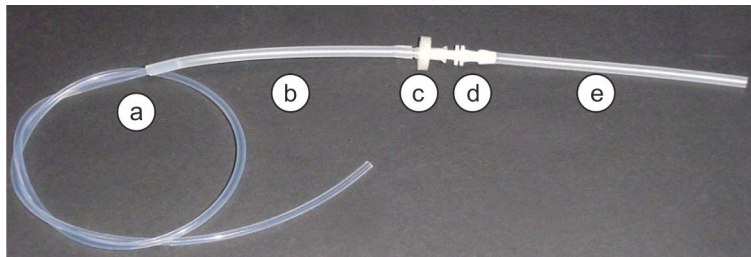

Fig. 20 Flow monitoring set
Smaller leaks can be detected if the control flow in the system drops when applying additional counter pressure. The flow monitoring set which is provided with the compEAct N can be helpful for finding leaks. The set is assembled as follows (→ Fig. 20):
3. Attach the loose end of hose a (→Fig. 20) to the FAST connector.